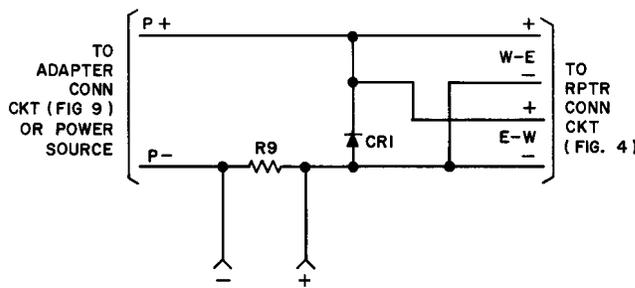
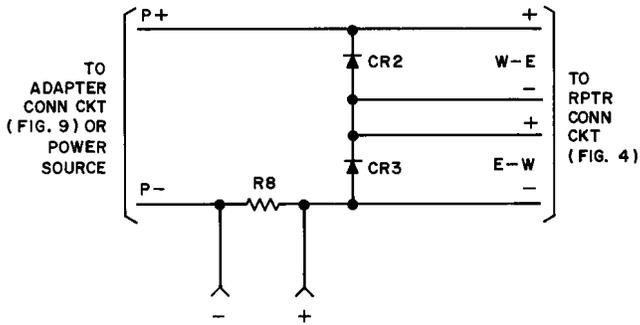

Fig. 6 — Power Circuit for H-L Repeater Receiving Power Over Line, or for H-L or L-H Repeaters Receiving Power from -48 Volt Battery
Fig. 8 — Power Circuit for L-H Repeater Receiving Power Over Line
3.05 If a local power source is used for the repeater, it is applied through an external dropping resistor and is connected to the P+ and P- leads of the power circuit illustrated in Fig. 6. The P+ and P- leads connect across regulating diode CR1 (in the mounting shelf) which maintains the voltage for the E-W and W-E sections of the repeater at a constant 22 volts. Test points (+) and (-) across resistor R9, in the negative lead of the dc supply, enable the value of current supplied to the repeater to be measured.
the line to provide continuity of power to other repeaters or 240-type amplifiers at other remote locations. The power regulating circuit of the H-L repeater, shown in Fig. 6, is the same for either local or remote powering. Since the H-L and L-H repeaters may be powered in the same series string, the current requirements must be the same. This requires the L-H repeater to operate on 44 volts in a circuit arrangement shown in Fig. 8. Each section of the repeater, E-W and
4.02 The N2 repeater is normally powered from a -48 volt source when local power is provided. However, when the repeater is used with an adapter on the N1A repeater mounting bracket, the powering requirements for the N1A repeater apply to the N2 repeater. This means that a +130 volt source may be used, instead of the -48 volt source, to power local repeaters. The L-H, N2 repeater in this case would require the power circuit shown in Fig. 8, as it also does when it receives power over the line.